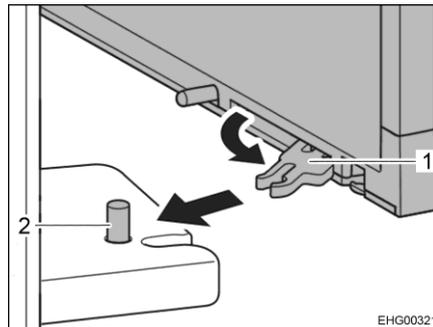

Fig. 91 Refrigerator door locking mechanism
- On the inner side of the refrigerator door, fold out and pull forward the spacer (Fig. 91,1) at the top and the bottom.
- Let the spacers snap in at the appropriate pin (Fig. 91,2).